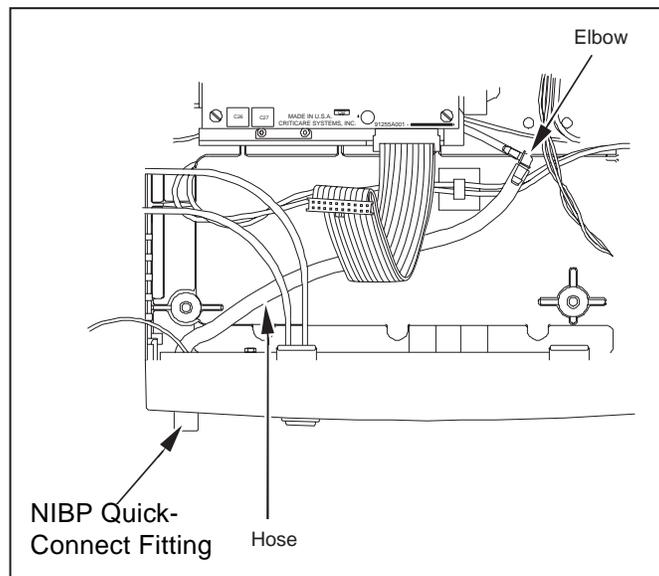

Figure 7-14: Disconnecting Blood Pressure Cuff Hose at Elbow
5. Label and disconnect (at the elbow) the hose that runs to the Quick-Connect fitting for the blood pressure cuff on the front bezel. (See "Figure 7-14: Disconnecting Blood Pressure Cuff Hose at Elbow".)